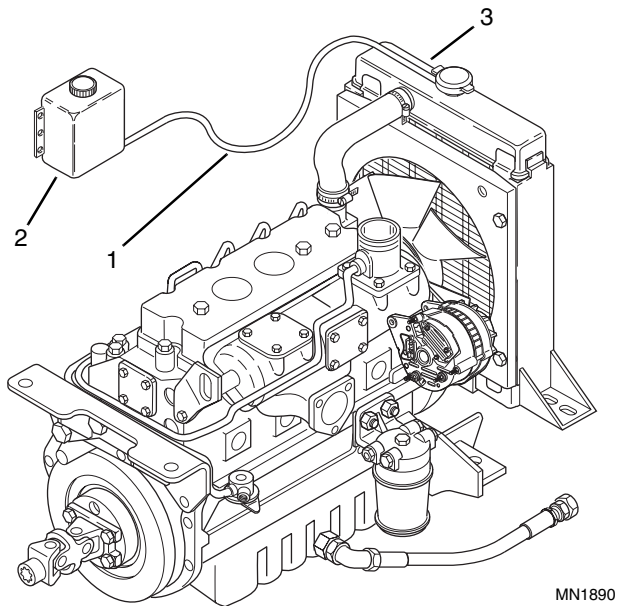

Figure 10-42 Radiator Overflow Bottle
13. Connect the radiator overflow hose (Fig. 10-42, 1) from the overflow bottle (2) to the radiator filler neck fitting (3).